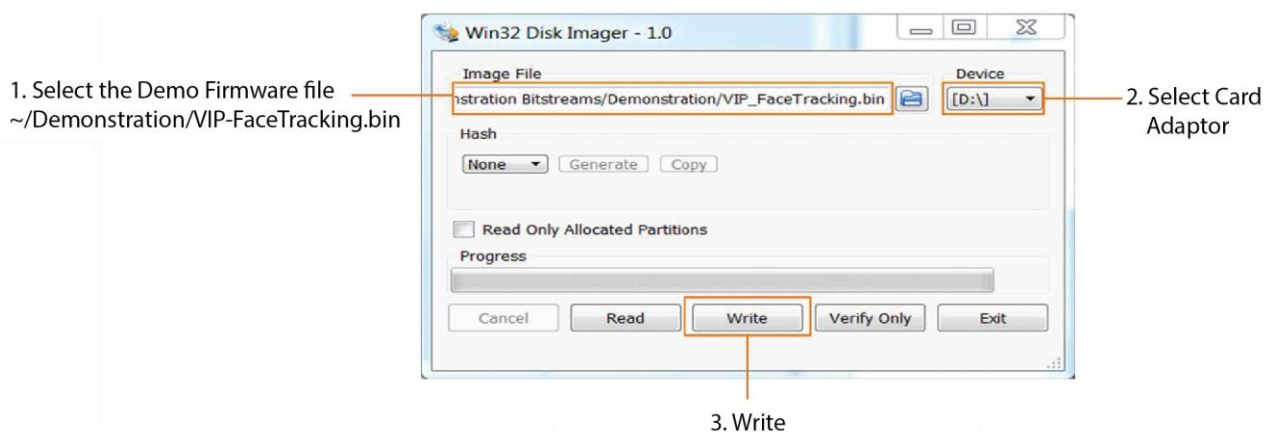

Figure 4.10. Win32 Disk Imager
4. In Win32 Disk Imager, select the image file `~/Demonstration/VIP-FaceTracking.bin` as shown in Figure 4.10.